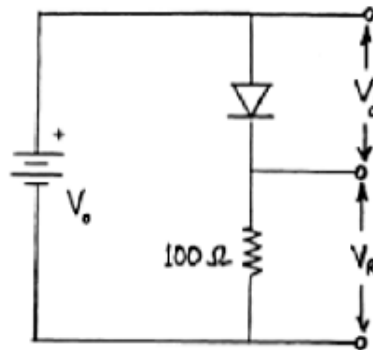

Figure 1: Circuit for characterizing a diode's current-versus-voltage characteristics
1. Construct the circuit shown in Fig. 1 using a DC power supply, a variable resistor, and the circuit board with three diodes. For each case below, record your data and make graphs summarizing your measurements.